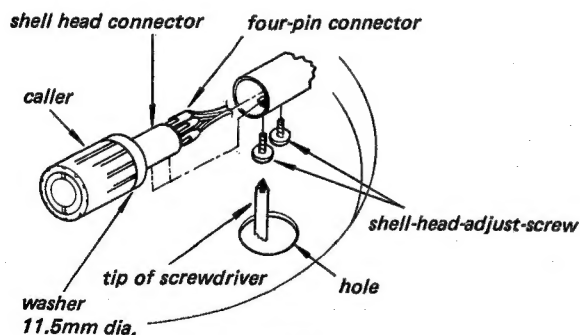

Fig. 2-6
3. Remove two shell-head-adjust-screws as shown in Fig. 2-6.
5. Unsolder the four leads and then replace the shell head. Temporarily secure with two screws as shown in Fig. 2-6.